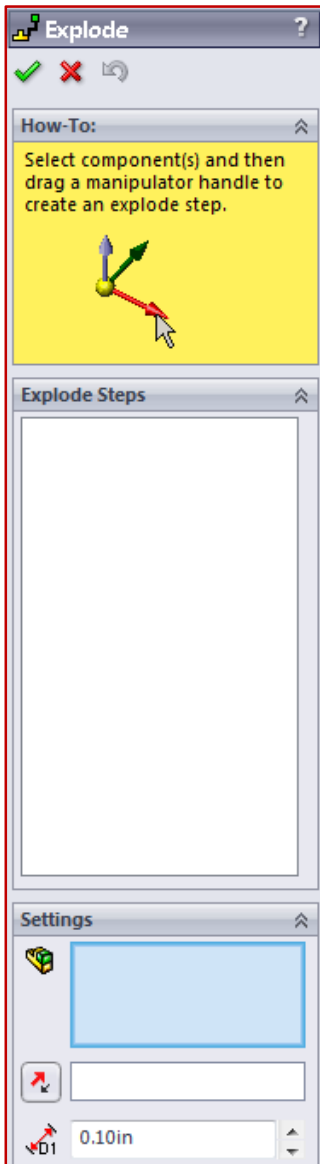

Figure 11.4 – Creating the Exploded View
- ✓ Repeat for every part until you have the fully exploded configuration that you want. See Figure 11.4.